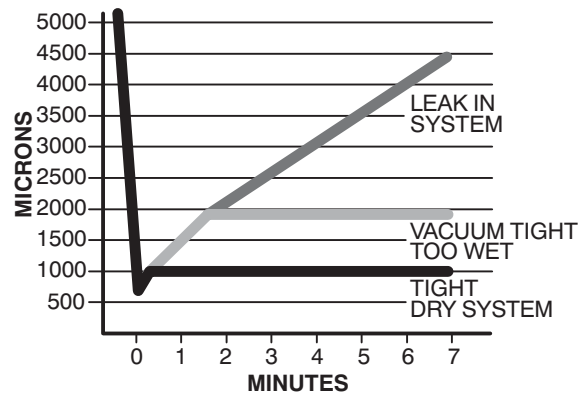

Fig. 10 — Deep Vacuum Graph
7. The factory charge contained in the outdoor unit is good for up to 25ft. (8 m) of line length. If vacuum is complete per Fig. 10 or 11, open service valves to release factory charge into the system.
The deep vacuum method requires a vacuum pump capable of pulling a vacuum of 500 microns and a vacuum gage capable of accurately measuring this vacuum depth. The deep vacuum method is the most positive way of assuring a system is free of air and liquid water (see Fig. 10).